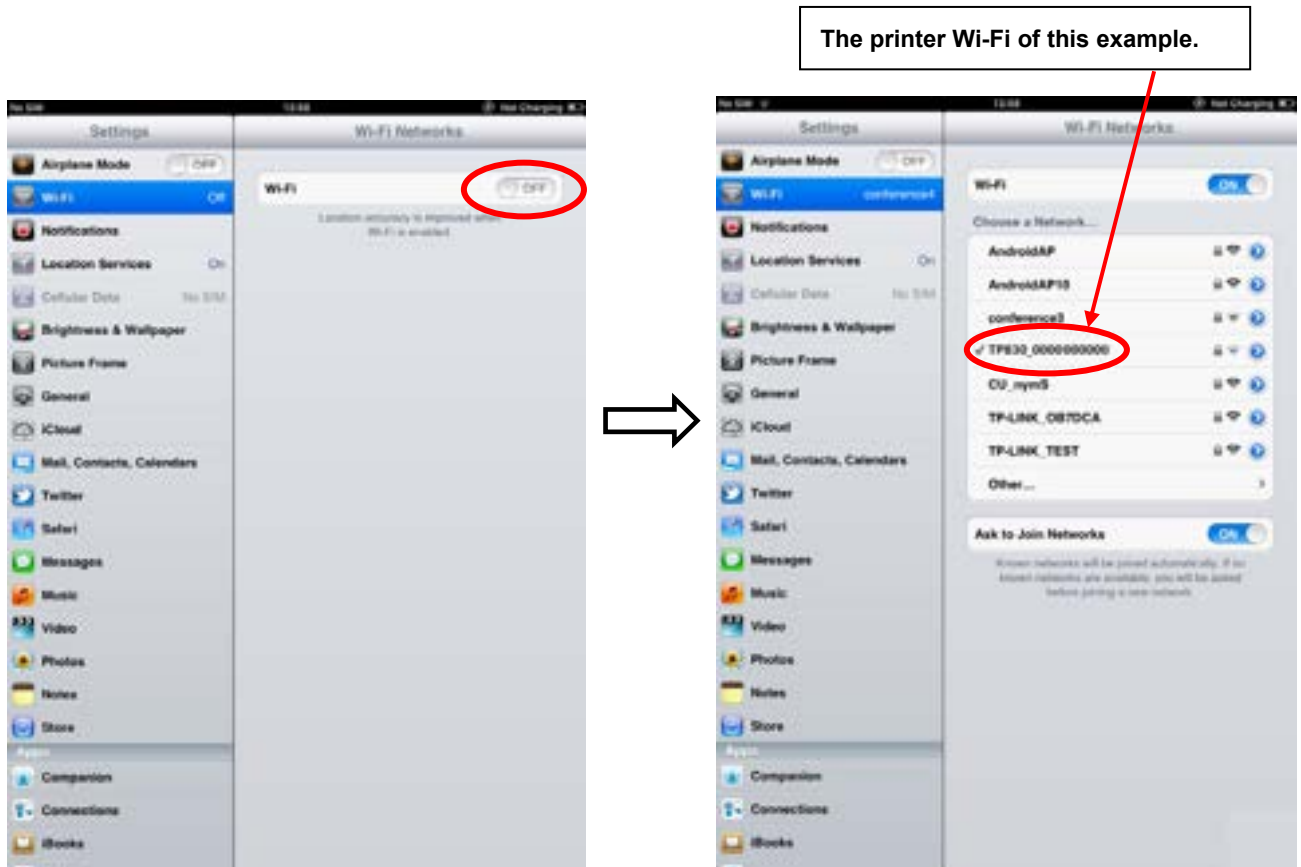

Figure 3
2. Click "Settings" and the interface pops up. Select the "WLAN" function to "ON", then click the printer Wi-Fi searched by the mobile phone to connect. The printer Wi-Fi default name is composed by "the printer model+10 SN numbers" (as shown in Figure 3).